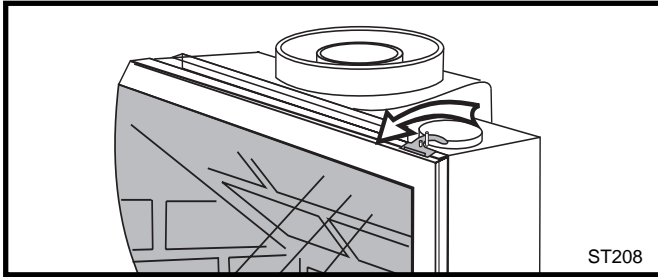

Fig. 68 Release the latches to release the glass frame.
2. Swing open the swiveling latches at the top left and right corners of the glass frame. (Fig. 68, Page 36)
2. Lift the Stove Front up and then swing the bottom out to disengage it from the heater shell. (Fig. 68)